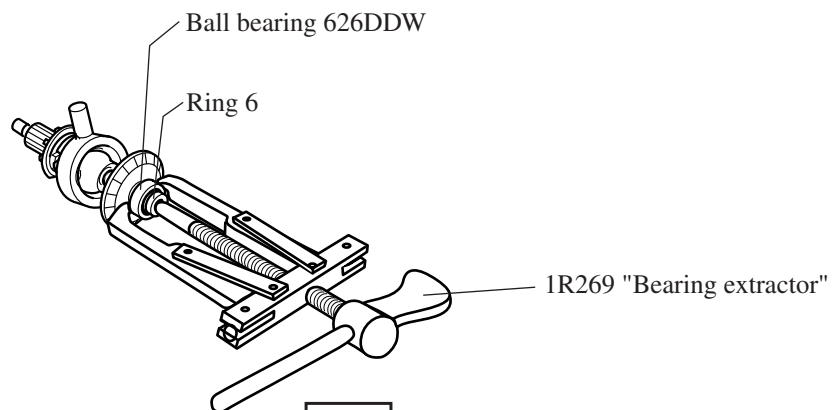

Fig. 13
- (1) Disassemble housing as per < 2 >, and then, take out the cam shaft unit from housing L.
- (2) Remove ring 6 and ball bearing 626DDW with 1R269 "bearing extractor" as illustrated in Fig. 13.